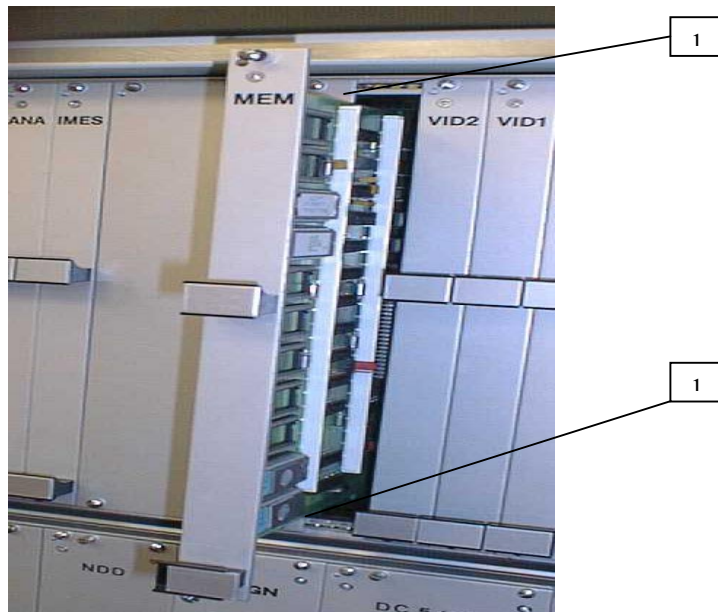

Fig.15 Inserting the card
- (7) Installs the EEPROM chip using the exact same method with the EPROM chip.
(8) Reinsert the card <MEM> straight into the guide rails (Fig.15 No.1) and push it in until the front panel comes up against the housing.